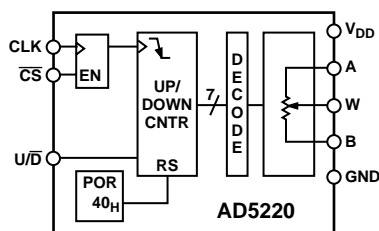

Figure 35. Block Diagram
The AD5220 contains a three-wire serial input interface. The three inputs are clock (CLK), \overline{CS} and UP/DOWN (U/\overline{D}). The negative-edge sensitive CLK input requires clean transitions to avoid clocking multiple pulses into the internal UP/DOWN counter register, see Figure 35. Standard logic families work well. If mechanical switches are used for product evaluation they should be debounced by a flip-flop or other suitable means. When \overline{CS} is taken active low the clock begins to increment or decrement the internal UP/DOWN counter dependent upon the state of the U/\overline{D} control pin. The UP/DOWN counter value (D) starts at 40H at system power ON. Each new CLK pulse will increment the value of the internal counter by one LSB until the full scale value of 3FH is reached as long as the U/\overline{D} pin is logic high. If the U/\overline{D} pin is taken to logic low the counter will count down stopping at code 00H (zero-scale). Additional clock pulses on the CLK pin are ignored when the wiper is at either the 00H position or the 3FH position.